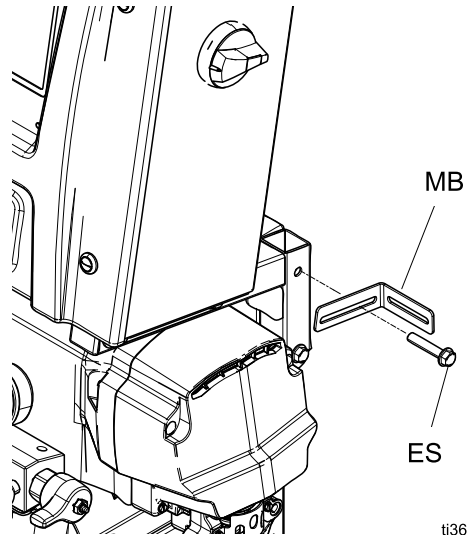

Figure 4 Install Wall Mounting Brackets
1. Remove the enclosure pivot arm screws (ES).
2. Lift the electrical enclosure (EE).
3. Place the left and right wall mounting brackets (MB) as shown in Fig. 4. Insert the enclosure pivot arm screws (ES) through the brackets (MB) and tighten to secure the enclosure.